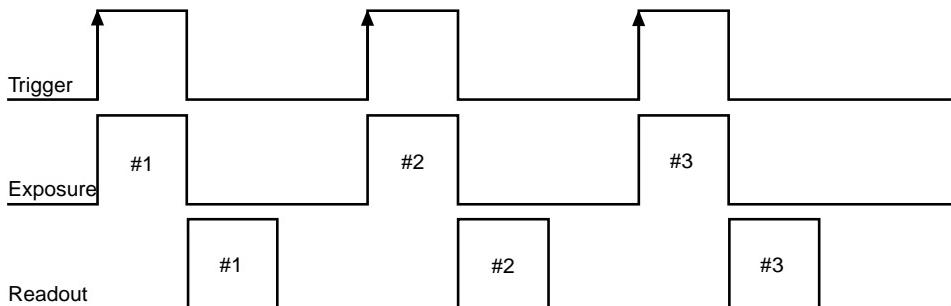

Figure 6. Bulb Mode Timing Diagram
- Bulb mode** In this mode, exposure time for each frame is determined by the trigger pulse width. Exposure time entered into the software is not used in this mode (see Figure 6).